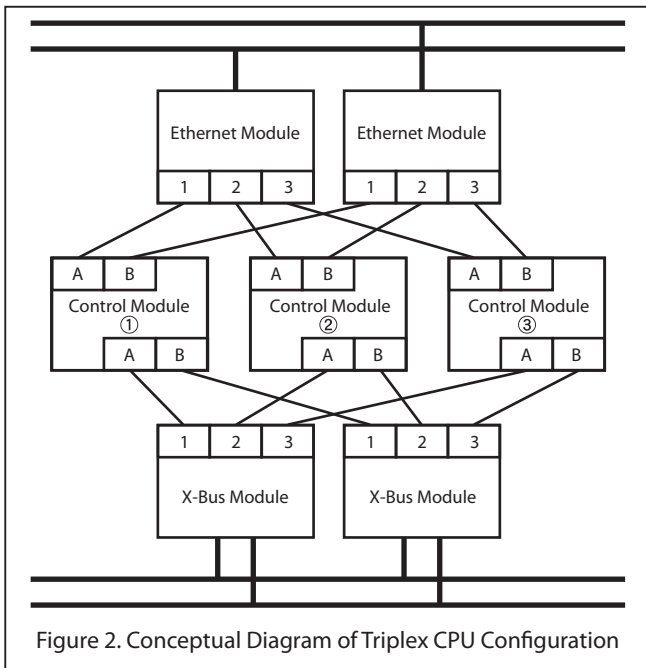

Figure 2. Conceptual Diagram of Triplex CPU Configuration
- TMR architecture (see Fig. 2) ensures high reliability and safety.